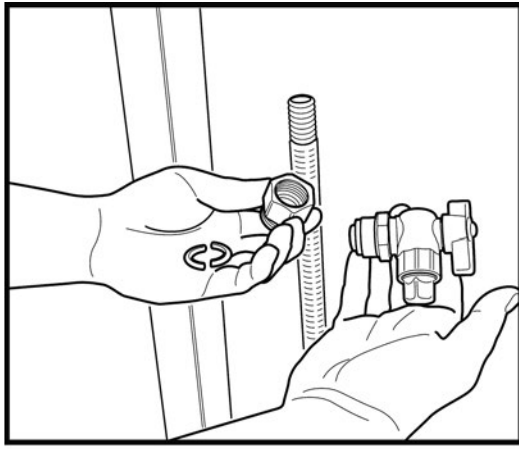

Figure: 4-29
3. Disassemble nut and split rings from valve. Figure: 4-29